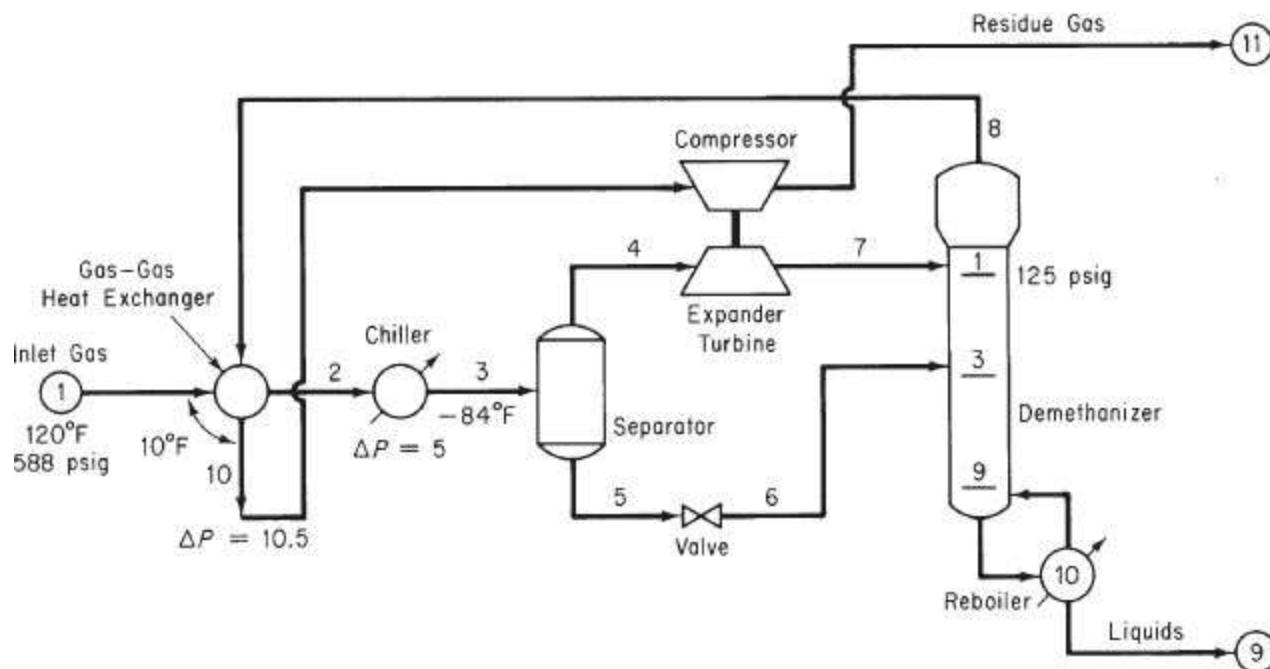

Figure P16.15
- 16.15. A demethanizer tower is used in a refinery to separate natural gas from a light hydrocarbon gas mixture stream (1) having the composition listed below. However, initial calculations show that there is considerable energy wastage in the process. A proposed improved system is outlined in Figure P16.15. Calculate the temperature (°F), pressure (psig), and composition (lb mol/hr) of all of the process streams in the proposed system.
Carry out the solution of the material and energy balances for the flowsheet in Figure P16.15, determine the component and total mole flows, and determine the enthalpy flows for each stream. Also find the heat duty of each heat exchanger.